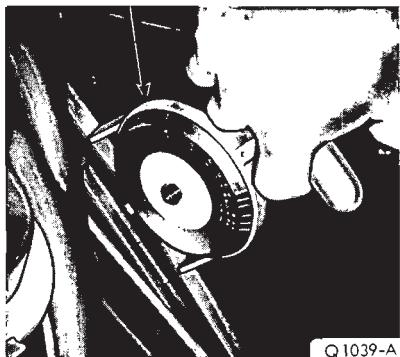

FIG. 1—Checking Drive Belt Tension
1. Install the belt tension tool on the drive belt (Fig. 1) and check the tension following the instructions of the tool manufacturer.